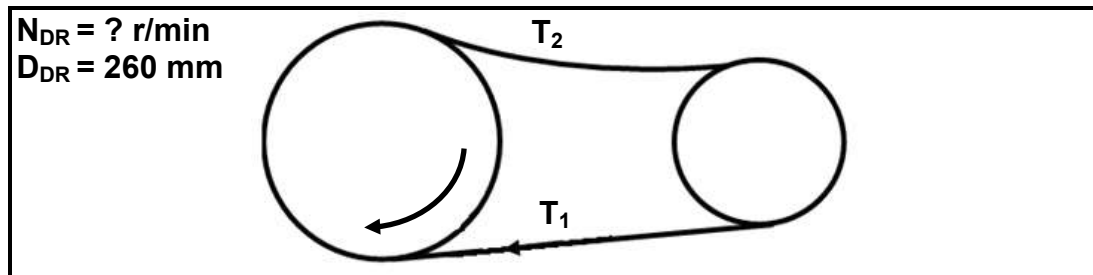

FIGURE 9.2
- 9.2 FIGURE 9.2 below shows a belt drive system with a 260 mm driver pulley. The belt speed of the system is 40 m.s^{-1} . The tensile force in the slack side is 140 N and the ratio between the force in the tight side and the force in the slack side is 2,5.